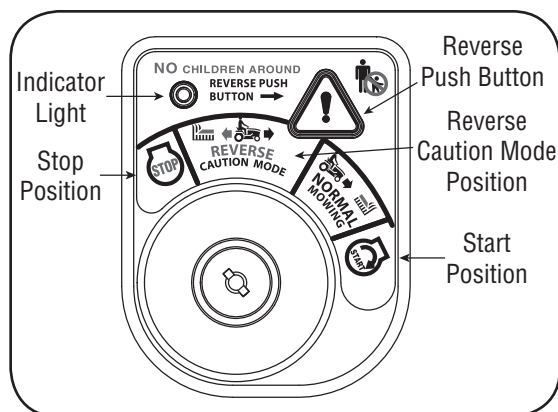

Figure 4-5
2. Turn the key from the **NORMAL MOWING** (Green) position to the **REVERSE CAUTION MODE** (Yellow) position of the key switch module. See Figure 4-5.
3. Depress the **REVERSE PUSH BUTTON** (Orange, Triangular Button) at the top, right corner of the key switch module. The red indicator light at the top, left corner of the key switch module will be **ON** while activated. See Figure 4-5.